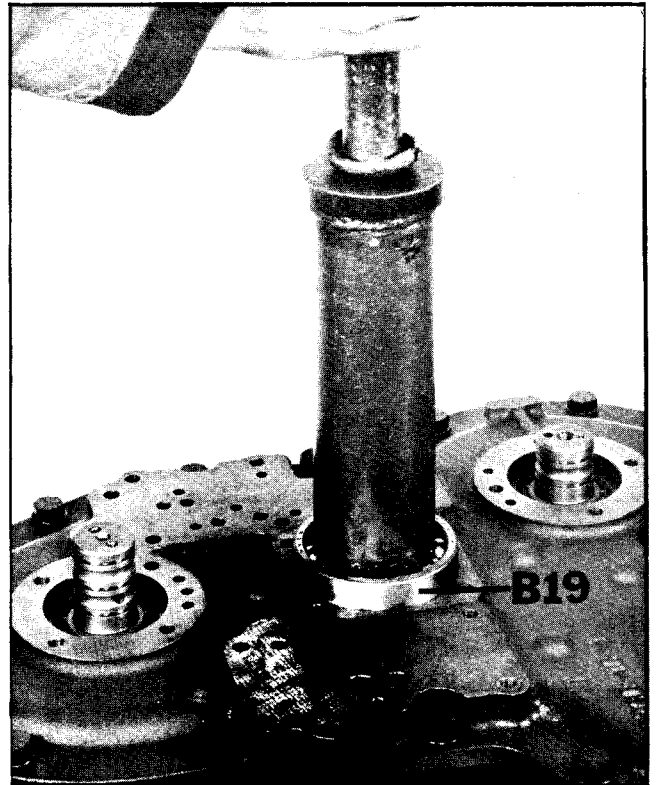

Figure 55
16. Press bearing (B-19) into place making sure snap ring groove on shaft is fully exposed (Figure 55).